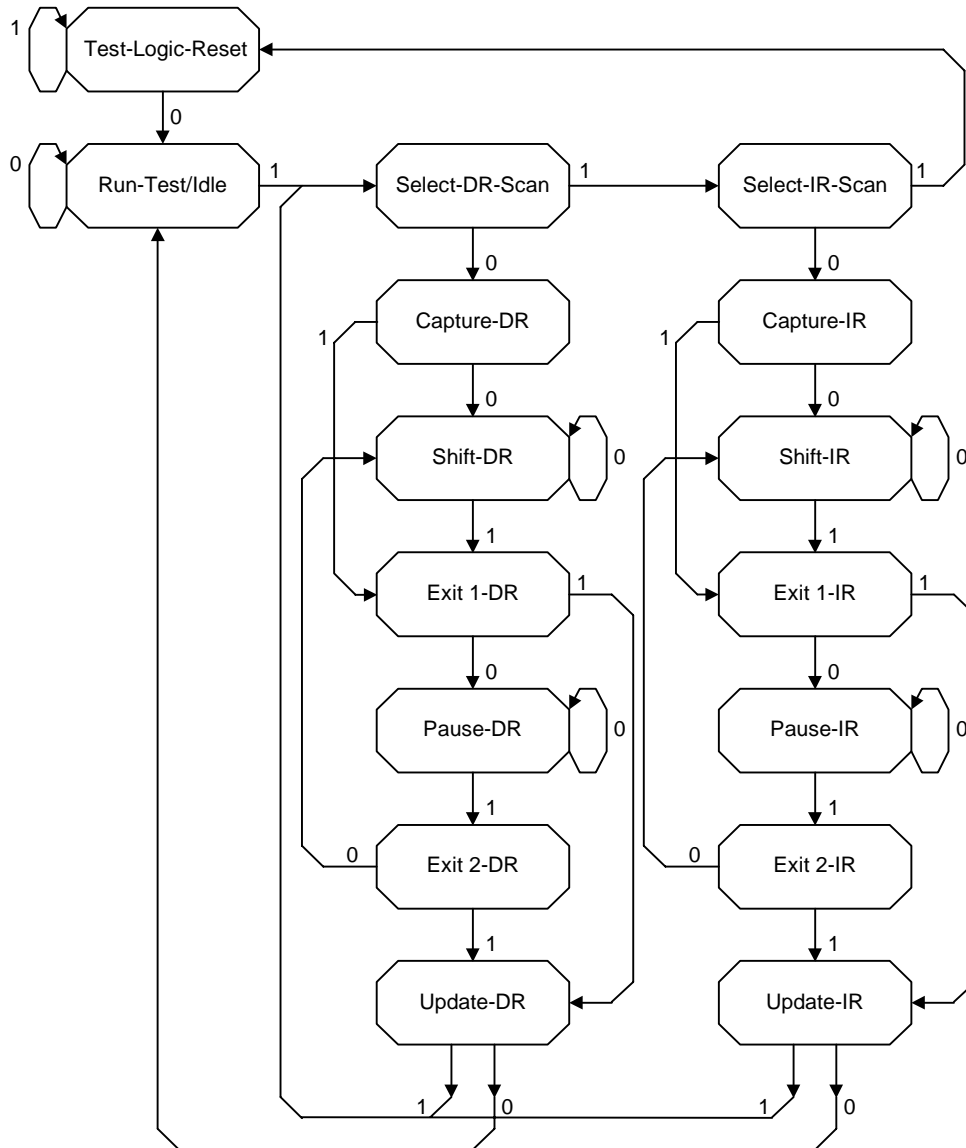

Fig. 23-7 State Transition Diagram of the TAP Controller
Fig. 23-7 shows the state transitions of the TAP controller. The state of the TAP controller changes depending on which value TMS will select on the rising edge of TCK, 0 or 1. In this figure, the arrow shows a state transition and the value that TMS selects to execute each state transition is shown alongside of the arrow.
The TAP controller operates in each state described below. In Fig. 23-7, a column to the left is the data column and a column to the right is the instruction column. The data column represents the data register (DR), and the instruction column represents the instruction register (IR).